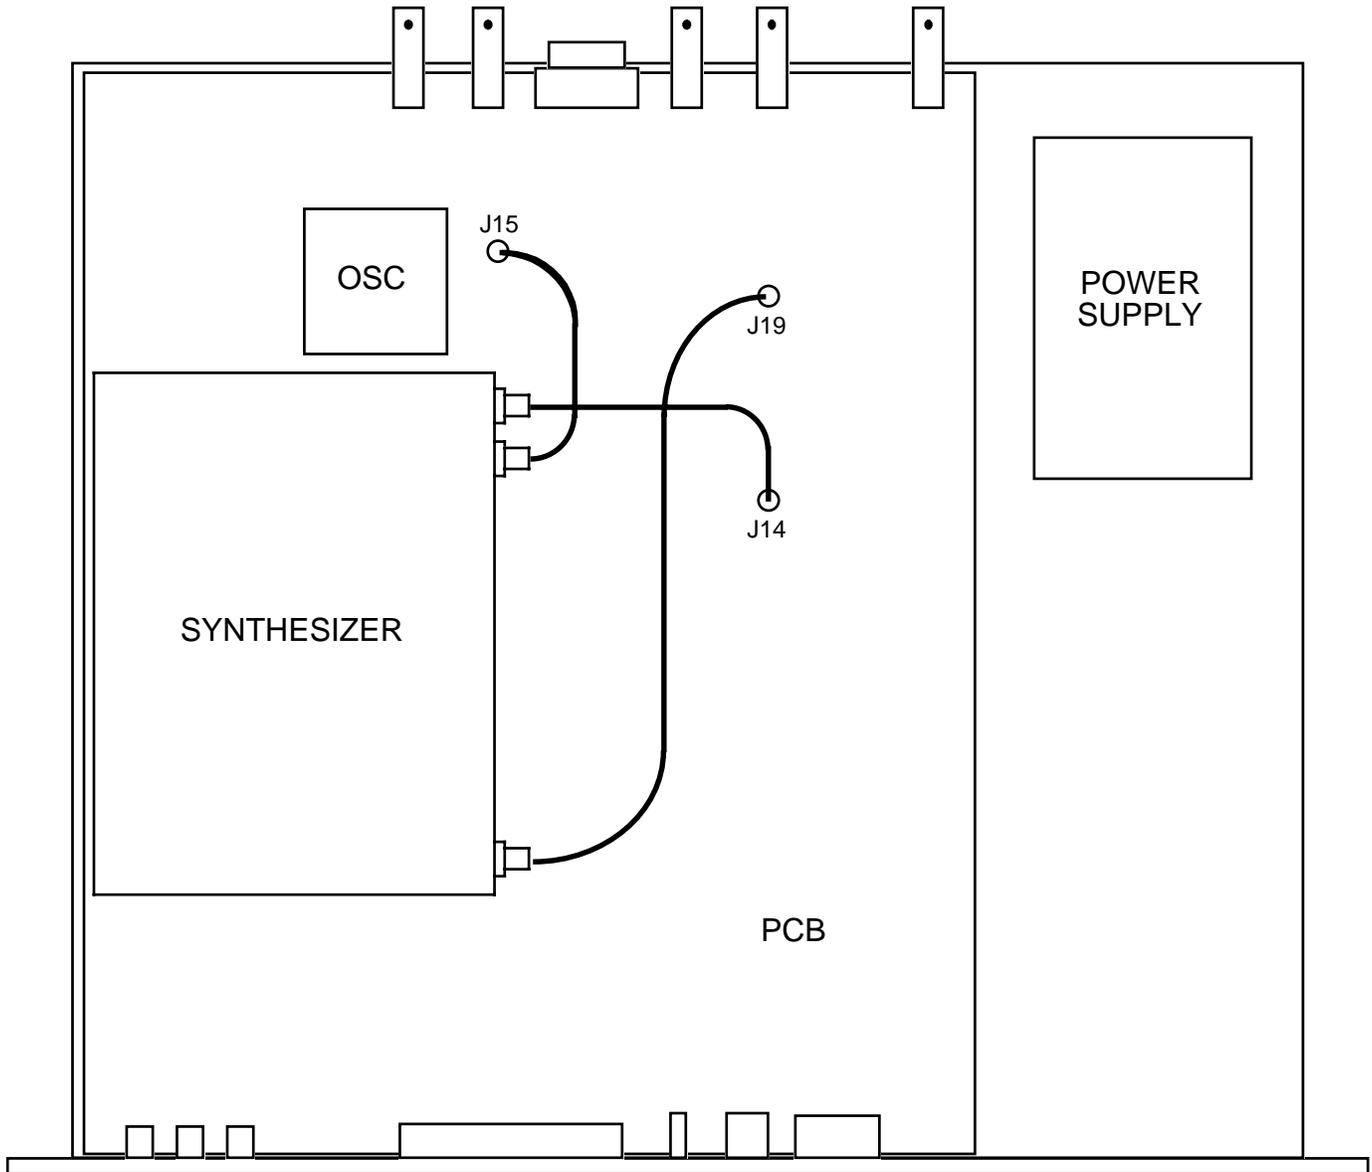

FIGURE 2.1 2016-123 Mechanical Assembly
2.1 Mechanical - The 2016-123 consists of one RF/Controller PCB which is housed in a 1 RU (1 3/4 inch high) by 16 inch deep chassis. A switching, ± 12 , +24, +5 VDC power supply provides power for the assembly. The 2016-123 can be secured to a rack using the 4 holes on the front panel. Figure 2.1 shows how the 2016-123 is assembled.